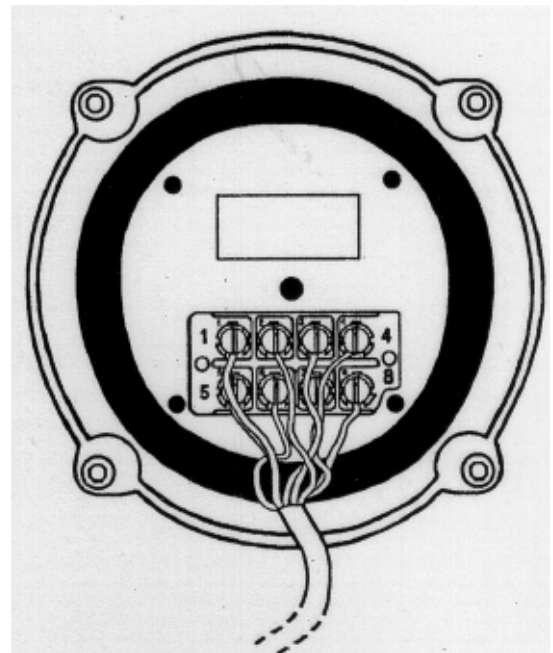

Figure 3 Rotator Wiring (Base)
A. Tower mounted as per Figure 3	8.5 square feet (.79 sq. m) of wind surface area
NOTE: The specifications call for heavier gauge wire on Terminal #1. Lead #1 must be heavier gauge and less total lead resistance (see Specifications, page 2). Wire the control to the rotator as shown in Figure 3.
The rotator is mounted inside a tower (see Figure 3) to the flat tower plate by means of four bolts furnished in the hardware kit. Use the following procedure:
3. The rotator is attached to the tower plate by means of fourbolts and lockwashers (see Figure 3). Spacer washers must be used between the rotator and plate for clearance of the rotator housing bolt heads. The flat tower plate must be drilled in four places using the template provided with this manual unless the tower plate is already properly drilled. A fifth hole must be drilled or cut to clear the control cable.
5. Trial assemble the mast to the top of the rotator using the U-bolts, nuts and lockwashers through the rotator and clamps as shown in Figure 3. The maximum mast diameter that may be used is 2 1/16" O.D.. We recommend 1 1/2" nominal steel pipe with 1/9" O.D. in standard wall thickness of .145". For stacked arrays or very large beams, we recommend extra heavy-duty wall thickness.200". Both steel pipes can be purchased to specification ASTM-120.